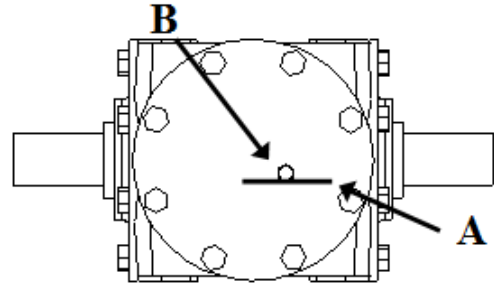

Figure 87: Gearbox Breather
Gearbox oil levels should be checked routinely and filled to line (A) shown in Figure 87.